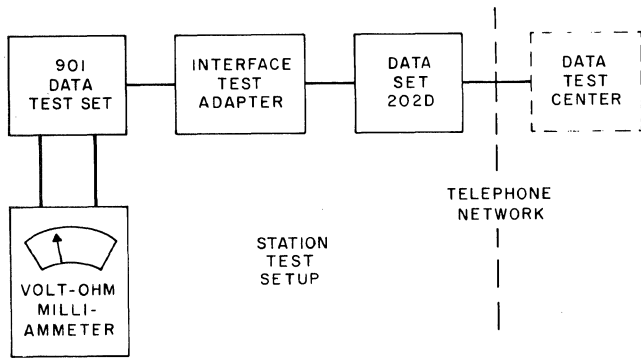

Fig. 3—Block Diagram Interface Test
3.02 A block diagram illustrating the equipment set for interface tests is shown in Fig. 3.